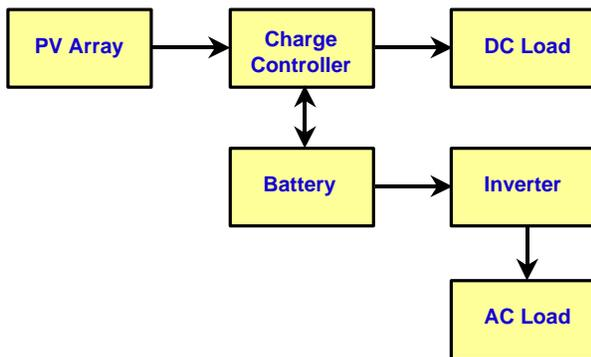
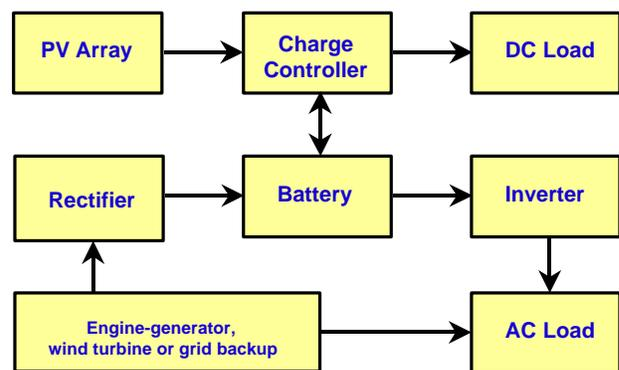

Figure 5. Diagram of stand-alone PV system with battery storage powering DC and AC loads.
Figure 6. Diagram of photovoltaic hybrid system.
| FIGURE 5. DIAGRAM OF STAND-ALONE PV SYSTEM WITH BATTERY STORAGE POWERING DC AND AC LOADS | 7 |
| FIGURE 6. DIAGRAM OF PHOTOVOLTAIC HYBRID SYSTEM | 7 |
Stand-alone PV systems are designed to operate independent of the electric utility grid, and sized to supply certain DC and/or AC electrical loads. These types of systems may be powered by a PV array only, or may use wind, an engine-generator or utility power as an auxiliary power source in what is called a PV-hybrid system. Batteries are used in most stand-alone PV systems for energy storage. Figure 5 shows a diagram of a typical stand-alone PV system powering DC and AC loads. Figure 6 shows how a typical PV hybrid system might be configured.
A. Batteries are often used in PV systems for the purpose of storing energy produced by the PV array during the day, and to supply it to electrical loads as needed (during the night and periods of cloudy weather). Other reasons batteries are used in PV systems are to operate the PV array near its *maximum power point*, to power electrical loads at stable voltages, and to supply surge currents to electrical loads. In most cases, a *battery charge controller* is used in these systems to protect the battery from overcharge and overdischarge (Figure 5).